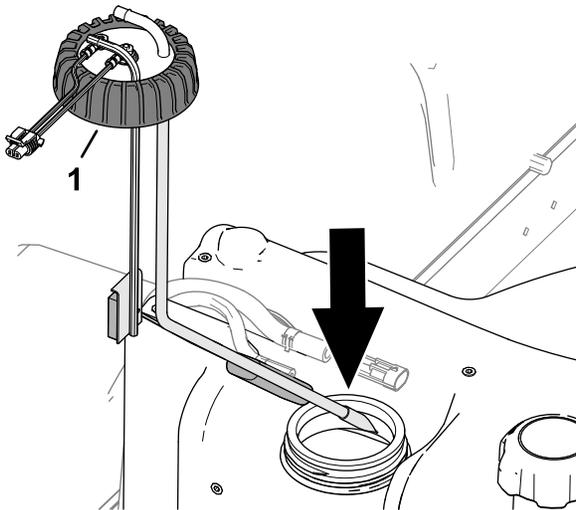

Figure 96
2. Carefully assemble the fuel pick-up tube and float into the fuel tank (Figure 96).